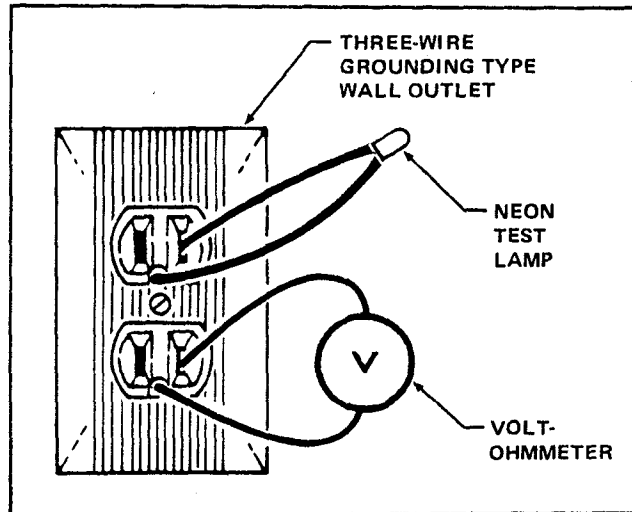

Figure 1-1. Wall Receptacle Polarity
B. Check the polarity of the receptacle with a neon indicator test lamp or a volt-ohmmeter to measure 110-120 VAC, per Figure 1-1. If the test lamp does not glow when it is inserted into the receptacle in the position shown, or voltage is not measure on the meter, have the wall receptacle rewired to conform to the required polarity.